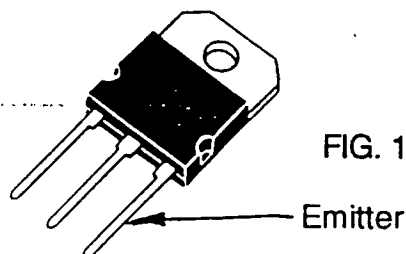

FIG. 1
8. Connect the voltmeter's positive (+) probe to the emitter leg of Q2. Connect the negative (-) probe of the DVM to the emitter leg of Q3. The emitter is the rightmost leg on these transistors when their bare metal tabs are pointing up (see Fig. 1).
10. Connect the voltmeter's positive (+) probe to the emitter leg of Q6. Connect the negative (-) probe of the DVM to the emitter leg of Q7. The emitter is the rightmost leg on these transistors when their bare metal tabs are pointing up (see Fig. 1).
12. Connect the voltmeter's positive (+) probe to the emitter leg of Q9. Connect the negative (-) probe of the DVM to the emitter leg of Q11. The emitter is the rightmost leg on these transistors when their bare metal tabs are pointing up (see Fig. 1).
14. Connect the voltmeter's positive (+) probe to the emitter leg of Q14. Connect the negative (-) probe of the DVM to the emitter leg of Q15. The emitter is the rightmost leg on these transistors when their bare metal tabs are pointing up (see Fig. 1).